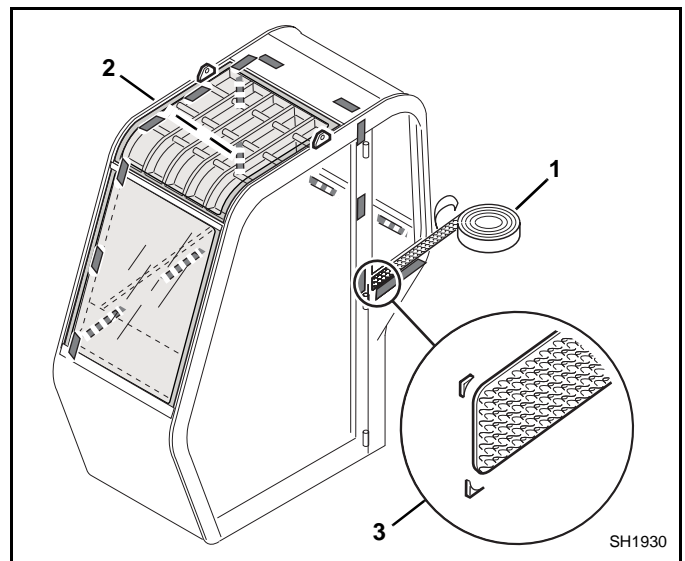

Figure 7
3. Align and apply the 2" (50 mm) wide hook strip material (Figure 7, 1) with firm pressure. Be careful to minimize contact with fingers. Use Figure 7 and also the tape marks applied during step 2 as a guide. Center and apply a hook strip on the right outside post (2). Use a roller and firmly roll the strips into place making sure the strips are laying flat and in full contact with the bonding surfaces (cab metal and glass). Resistance to edge peeling can be improved by nipping or rounding the corners (3) of the hook strip material.